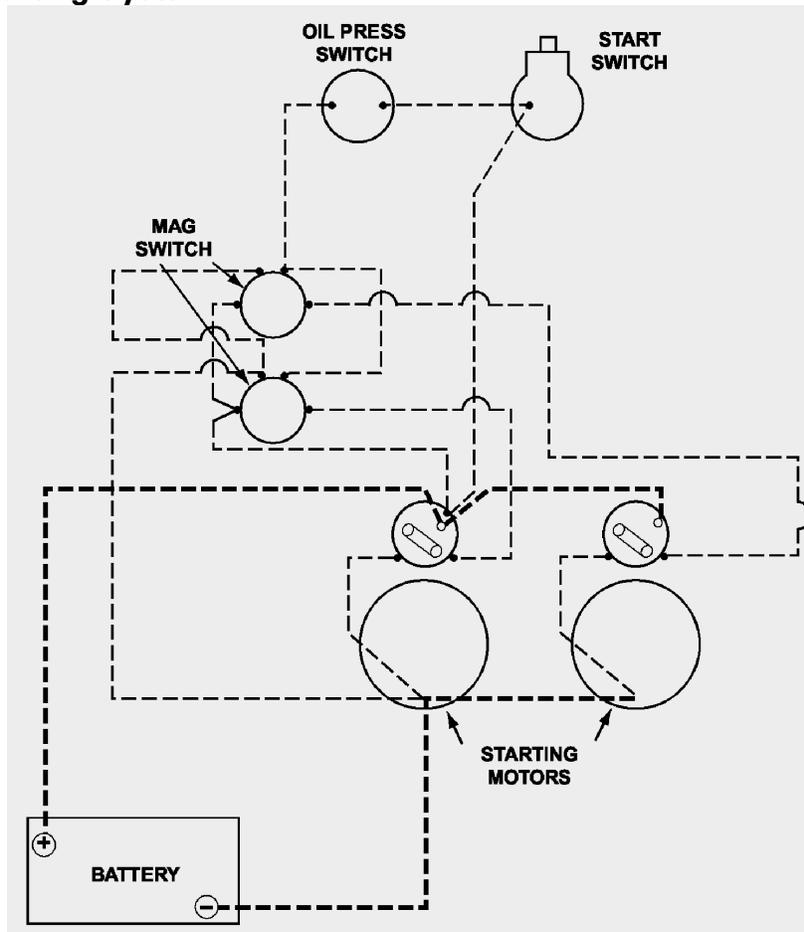
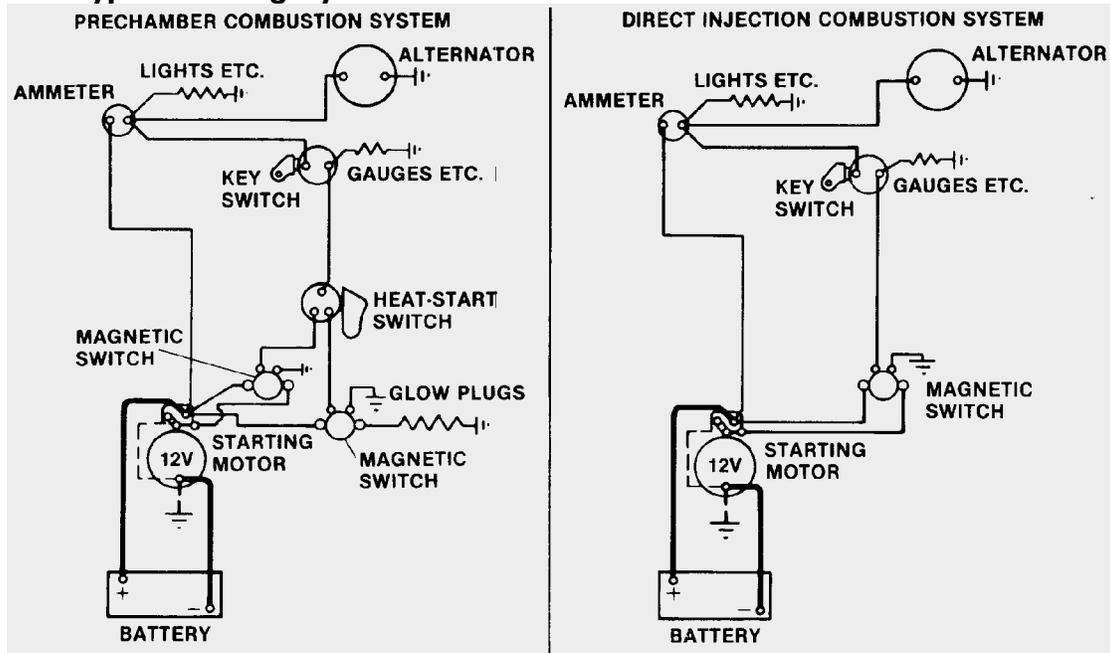

Figure 5
Figure 6
For correct size and correct circuit for starting system components, see wiring diagrams provided with the engine or the Operation and Maintenance manual. Sample diagrams are shown at the end of this section in **Figure 5** and **Figure 6**. All control wiring must be protected by fuses or a manual reset circuit breaker. The main battery cables need not be fused. These may or may not be shown on the wiring diagrams. Fuses and circuit breakers should have sufficient capacity and be readily accessible for service.
- For 3600 applications with electric starting, use separate batteries for starting and control systems, as shown in **Figure 5** at the end of this section.